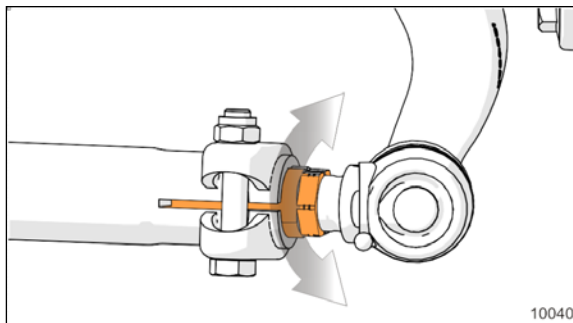

FIGURE 4
6. Once close to the length of the former tie rod, perform fine adjustment using the adjuster sleeve to reach the same length. (See Figure 4)